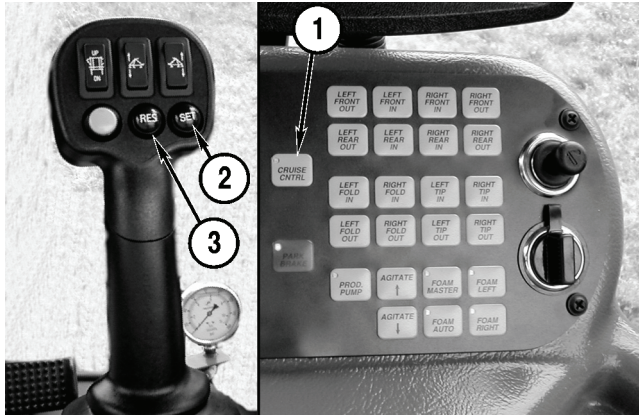

Figure 3-22
1. Turn the master cruise button (**Figure 3-22, 1**) located on the console on.
2. Once the desired speed is reached, push and release the SET button (**Figure 3-22, 2**) on the T-handle.
3. If the engine rpms are decreased or increased, the cruise control will disengage; to resume cruise speed, press the RES button (**Figure 3-22, 3**) on the T-handle to return to the previously set cruise control speed.
The cruise control will operate between 4 and 20 mph (6.4 and 32.2 km/h). If the SET button (**Figure 3-22, 2**) is pressed while the speed is out of range, the command will be ignored.
When the cruise control is set, pressing the RES button (**Figure 3-22, 3**) increases Apache Sprayer speed by one mph for each time it is pressed; pressing the SET button (**Figure 3-22, 2**) when the cruise control is set decreases Apache Sprayer speed by one mph for each time it is pressed.